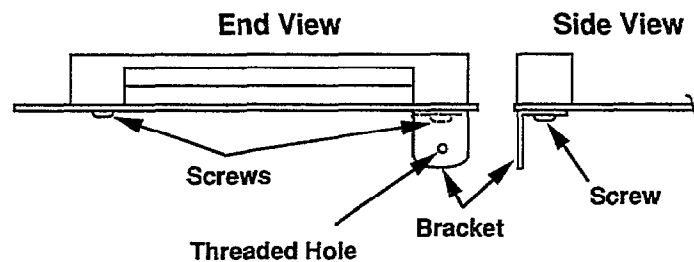

Figure 2-2. AMM Module Mounting Bracket
7. A small right-angle bracket and screw are included to fasten the rear corner of the AMM module to the rear panel of the Model 575. Install this bracket to the other cable clamp mounting hole on the rear corner of the AMM module with the remaining cable clamp mounting screw (see Figure 2-2).